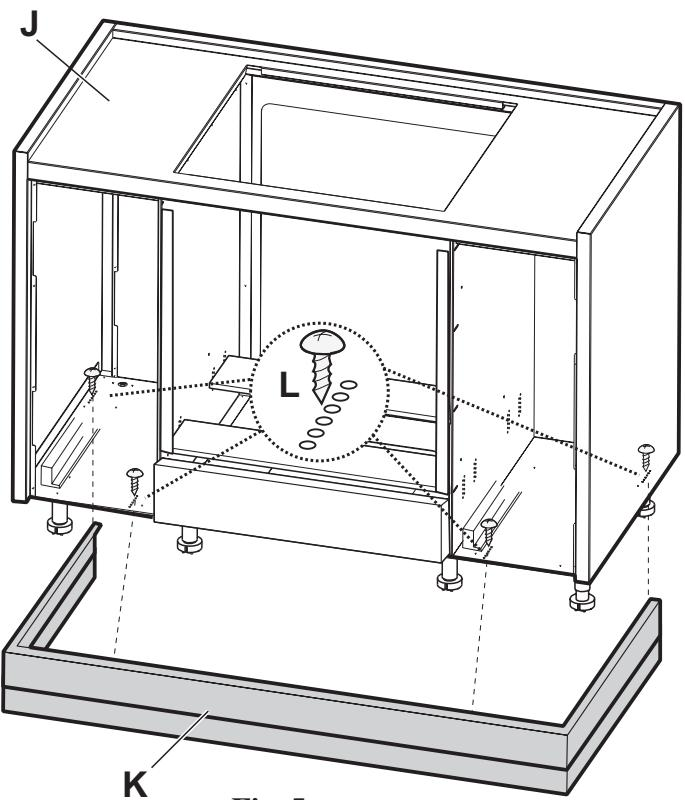

Fig. 5
7. Place the cabinet in the selected area and check that the workbench **J** is perfectly level (achieve levelling by regulating the cabinet legs **F**). **Fig. 5**.
8. Affix the frontal lower cabinet panel **K** to the cabinet with 4 screws (the panel may be fixed in various depths according to needs, therefore diverse drill holes **L** are provided). **Fig. 5**.